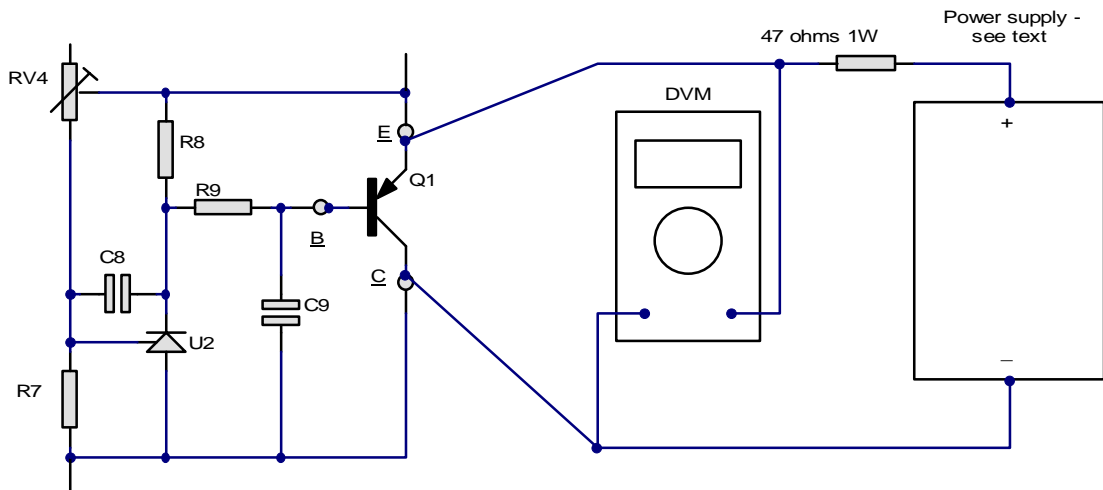

Figure 11: Cathode bias test setup
1. Connect Q1 (observe correct connections). To apply current through the cathode bias regulator, connect a 47Ω 1W resistor from the + terminal of an external power supply to the E terminal of Q1 (see Figure 11). Connect the – terminal of the power supply to the C terminal of Q1.
2. Connect an accurate voltmeter between the C and E terminals of Q1, as shown in Figure 11.